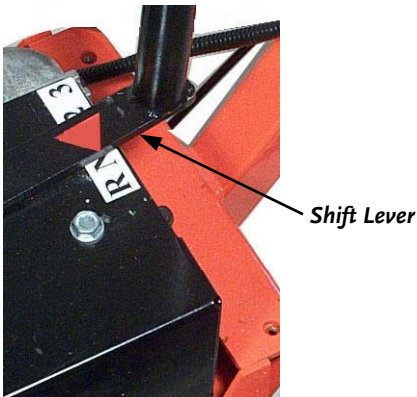

Figure 3
1. Move the Shift Lever to N (Neutral) (**Figure 3**).